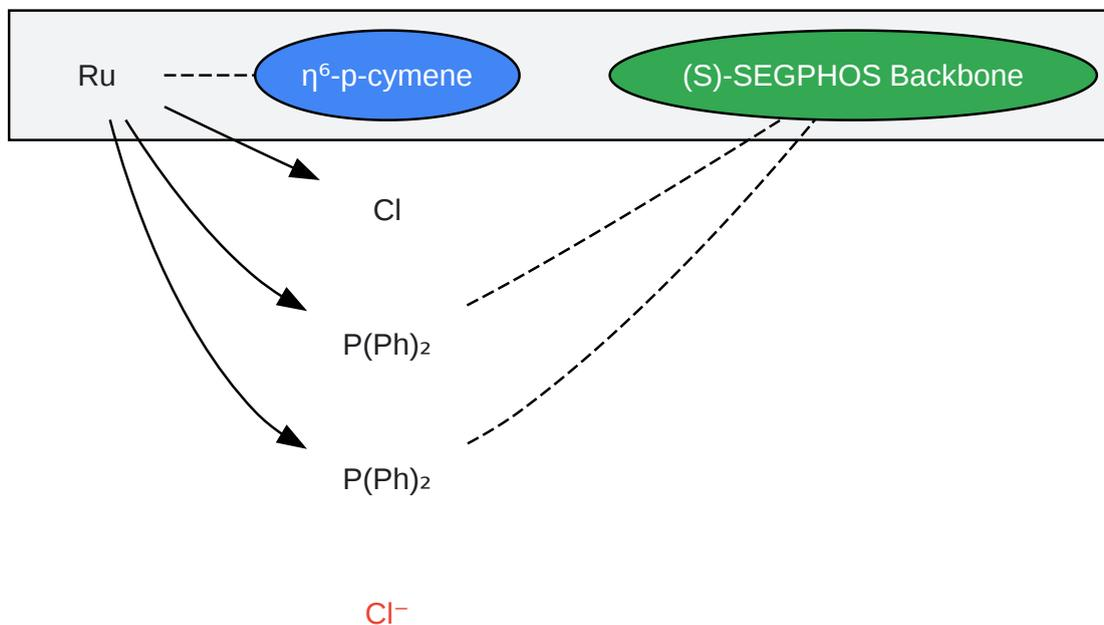

Fig. 1: Structure of (S)-Ru-SEGPHOS p-Cymene Precatalyst
Caption: Fig. 1: Structure of (S)-Ru-SEGPHOS p-Cymene Precatalyst